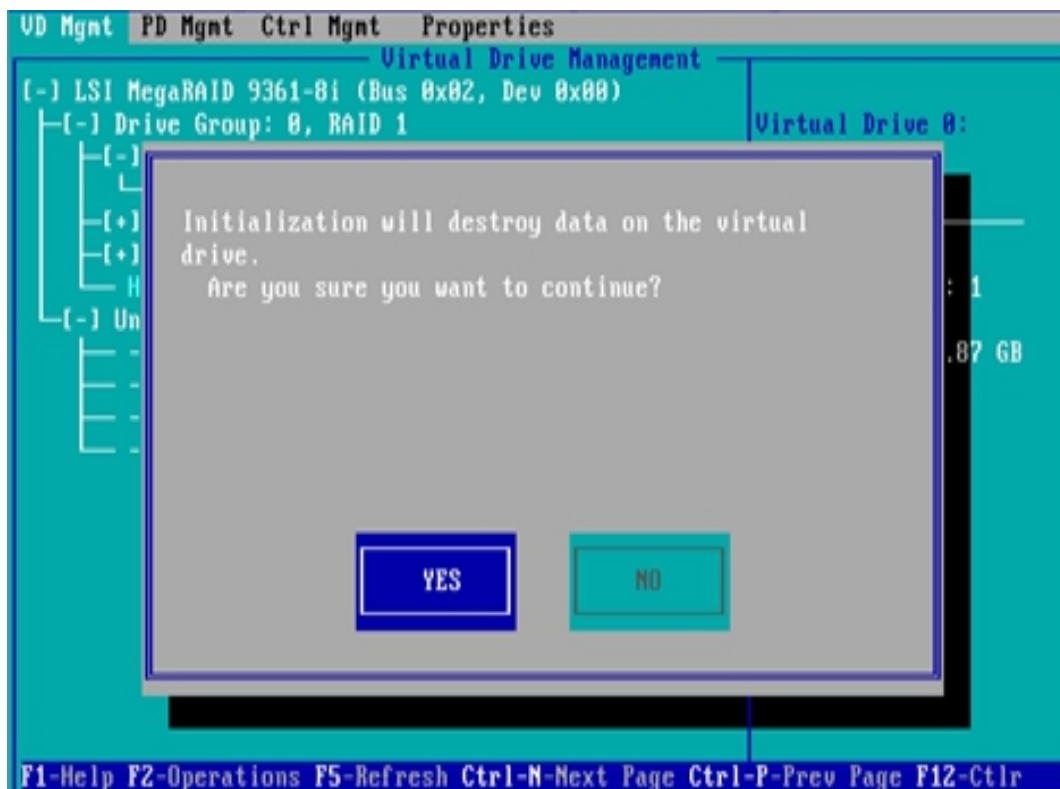

Figure 6-125
- c) Enter the interface shown in figure 6-125, select Yes and press enter to complete the initialization operation.
- ✧ Figure 6-125 confirm initialization